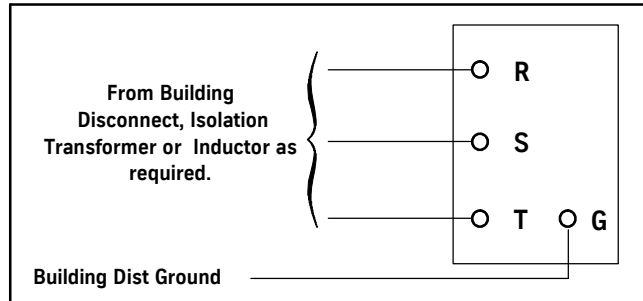

Figure 7
- **Installations WITHOUT AC Line Contactor:** See Figure 7.